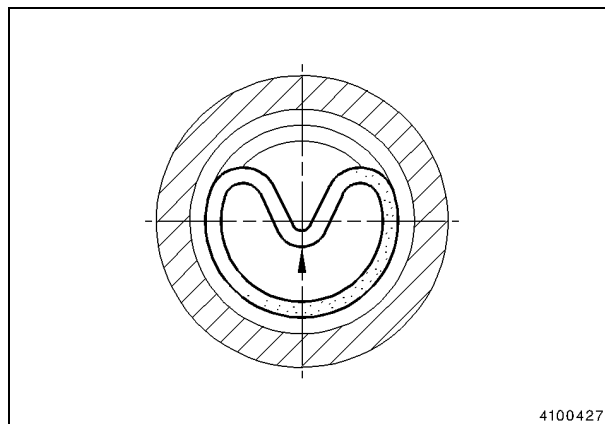

Fig. 3
- Depress the new lip seal in the center and install it in the groove (Fig. 2 and Fig. 3).